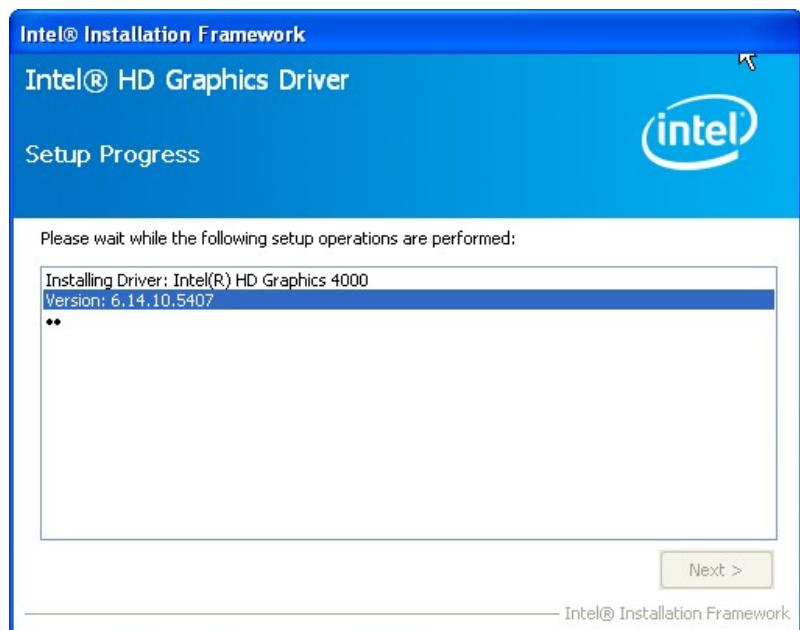

Figure 6-11: Graphics Driver Setup Operations
Step 9: Setup Operations are performed as shown in **Figure 6-11**.